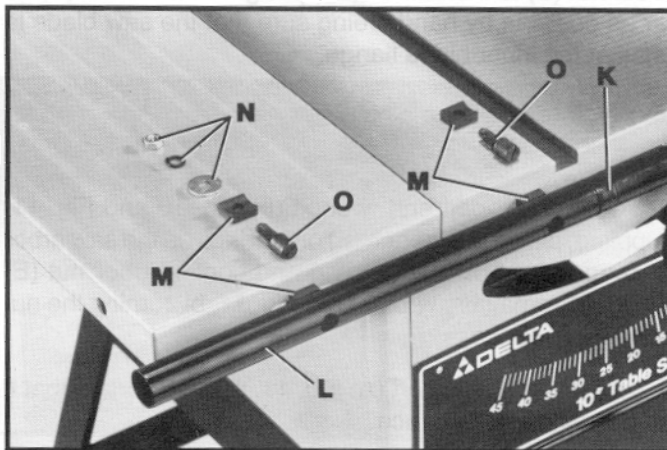

Fig. 14
7. Assemble guide rail extension (L) Fig. 14, onto extension plug (K) and fasten guide rail extension (L) to saw table and wing using two special screws (O), two spacers (M) and one flat washer, lock washer and nut (N), as shown.